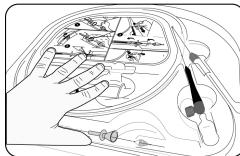

Figure 9
- Ensure that the Tray is on a level surface. Hold the tray securely with one hand ensuring the well and Filtration Element are clearly visible (Figure 9).